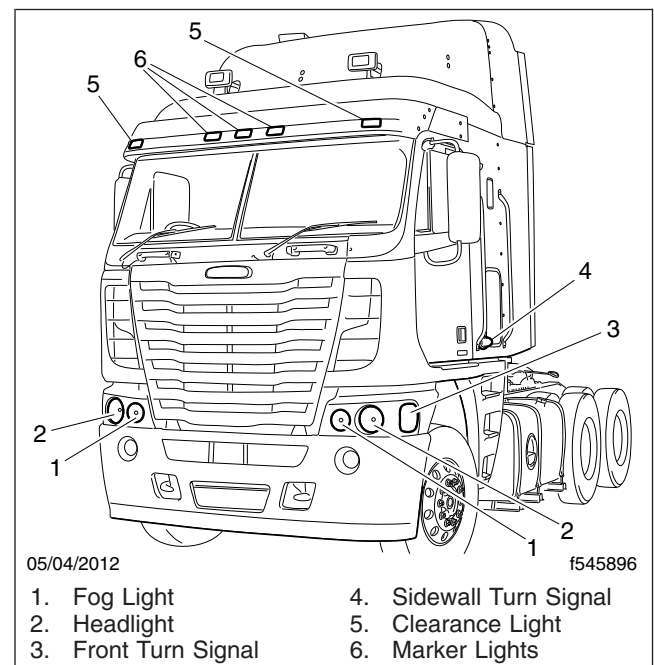

Fig. 23.8, Exterior Lights
11. Check the operation of all exterior lights. See Fig. 23.8.